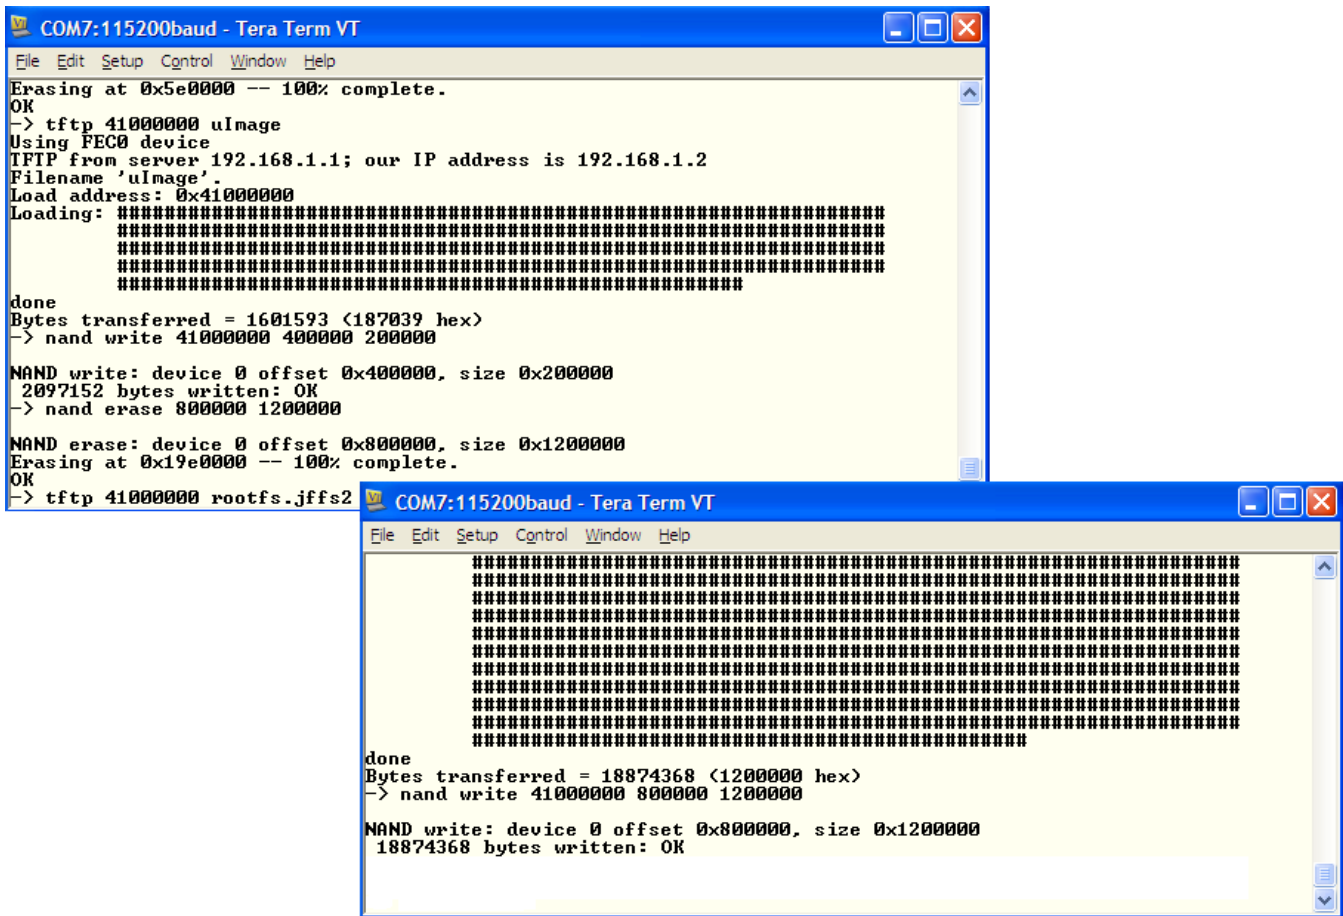

Figure 24. Erase the NAND flash block and flash rootfs
5. In the terminal window, erase the NAND flash block and flash root file system image, as seen in Figure 24.